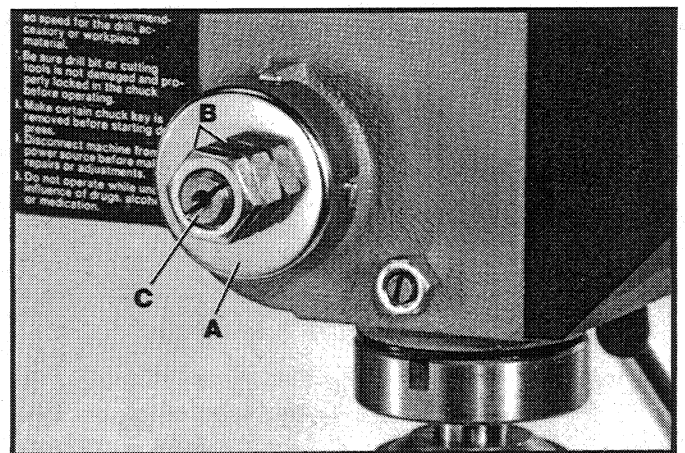

Fig. 35
For the purpose of automatically returning the spindle upward after a hole has been drilled, a spindle return spring is provided in the spring housing (A) Fig. 35. This spring has been properly adjusted at the factory and should not be disturbed unless absolutely necessary. To adjust the return spring, proceed as follows:
2. Loosen the two nuts (B) Fig. 35, approximately 1/4". Do not remove nuts (B) from shaft (C).